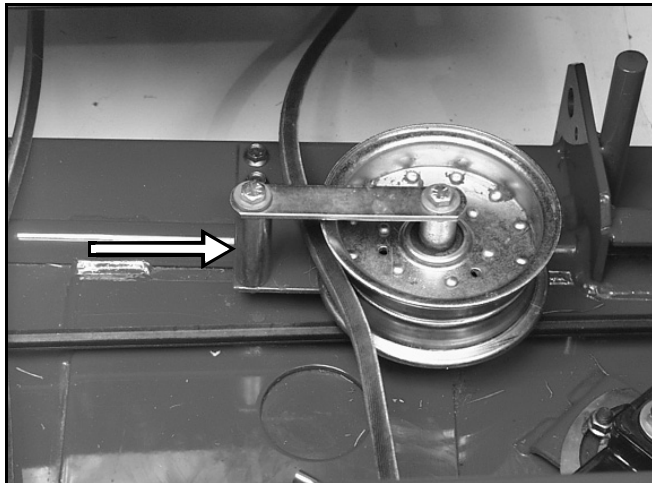

Figure 118
3. Remove the bolt and spacer from the mower deck belt guide and remove the belt from the deck (Figure 118).